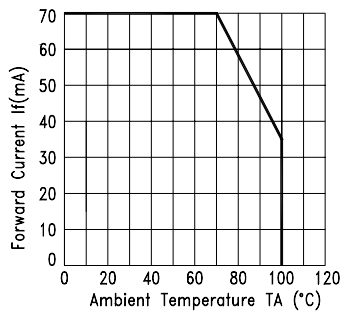

Fig.3 Forward Current v.s Ambient Temperature
- 2. Derating linear as shown in Fig. 3